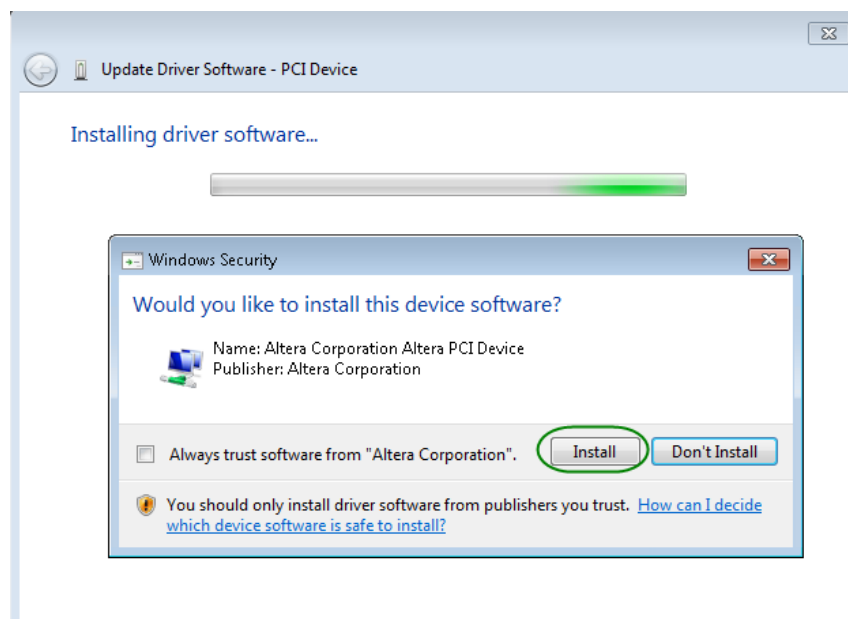

Figure 0-7 Click Install in the dialog of Windows Security
11. **Figure 0-7**, click the **Install** button.